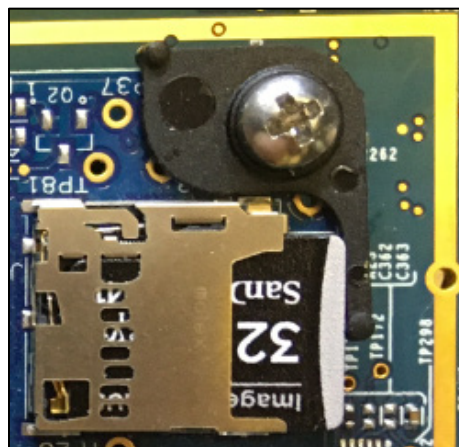

Figure 54 MicroSD Card Inserted
3. Insert the microSD card observing proper orientation (Figure 54).